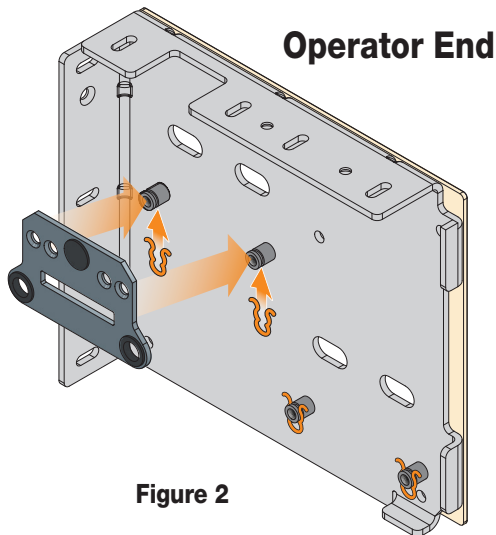

Figure 2
5. Place operator (motor) end of rear shade into its endcap (Fig. 2).
6. Secure motor plate with the provided clips (Fig. 2).